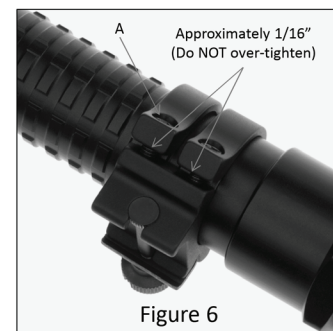

Figure 6
8. Begin tightening all 4 Cap Head Screws (Figure 6-A) by alternating back and forth and tightening a little at a time. When all 4 are tightened into place (DO NOT over-tighten), the gap between the lower half of the mount and the two top rails should be approximately 1/16" and should be equal on both sides.